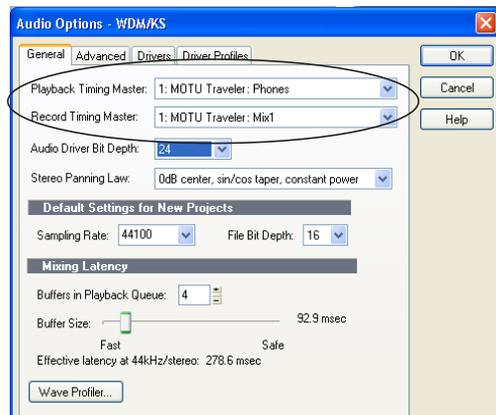

Figure 8-3: Make sure you have chosen a Traveler input and output for the playback and recording timing master settings.
- 2 Choose a Traveler input and output for recording and playback timing as shown below in Figure 8-3. It doesn't matter which input or output you choose.